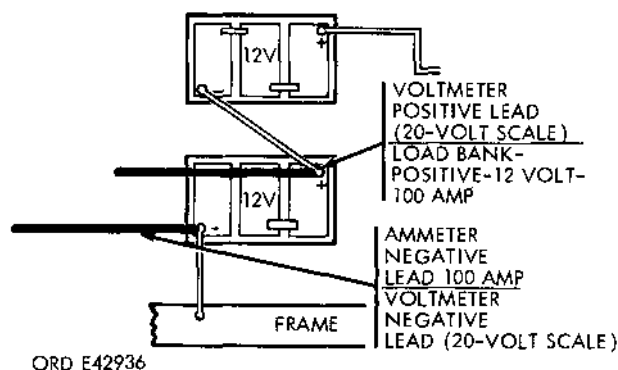

Figure 2-12. Load bank voltage test.
c. *Individual Battery Check Using Load Bank (Fig. 2-12).*